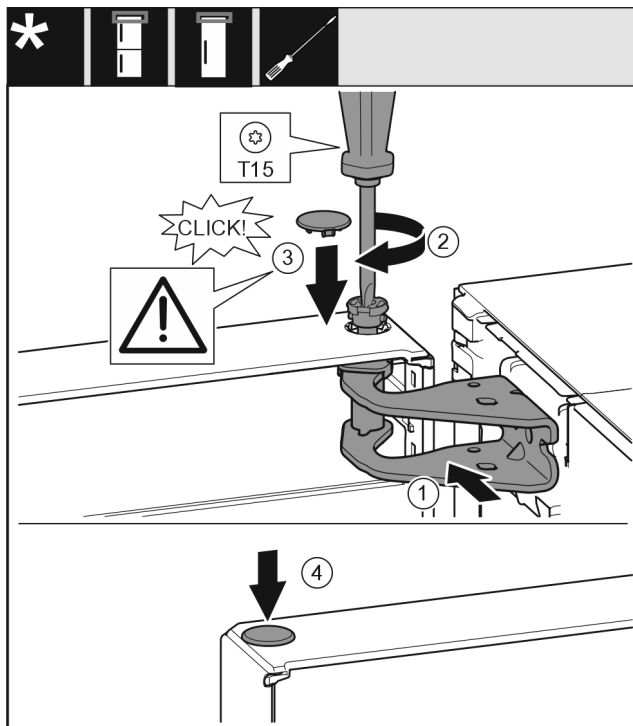

Fig. 34
- ▶ Align the top door with the opening in the swap bearing block Fig. 34 (1).
- ▶ Insert the bolt Fig. 34 (2) and use screwdriver to tighten it.
- ▶ Insert the cover Fig. 34 (3).
- ▶ Check that the cover Fig. 34 (3) is resting on the door.
- ▶ Insert the cover Fig. 34 (4).